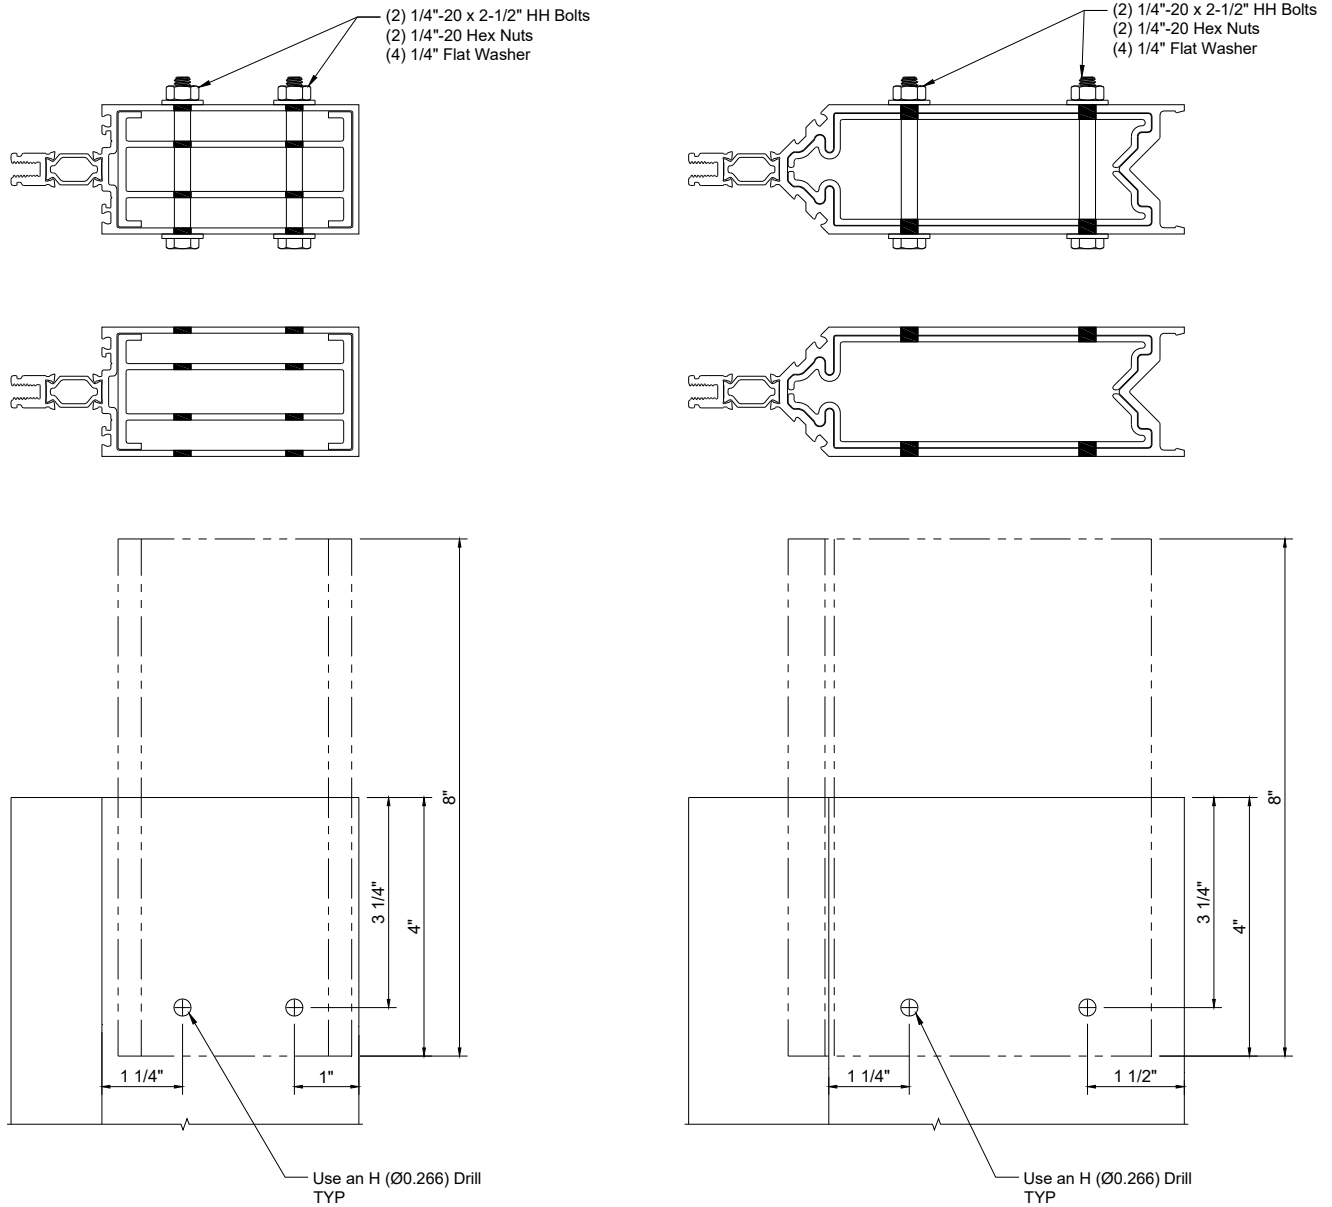

Figure 34: Splice Sleeve Attachment
- 10.9 Slide splice sleeve(s) 4-inches into the head end of the lower mullion, temporarily secure in place and drill (2) letter H (0.266) Ø holes as shown in *Figure 34*.